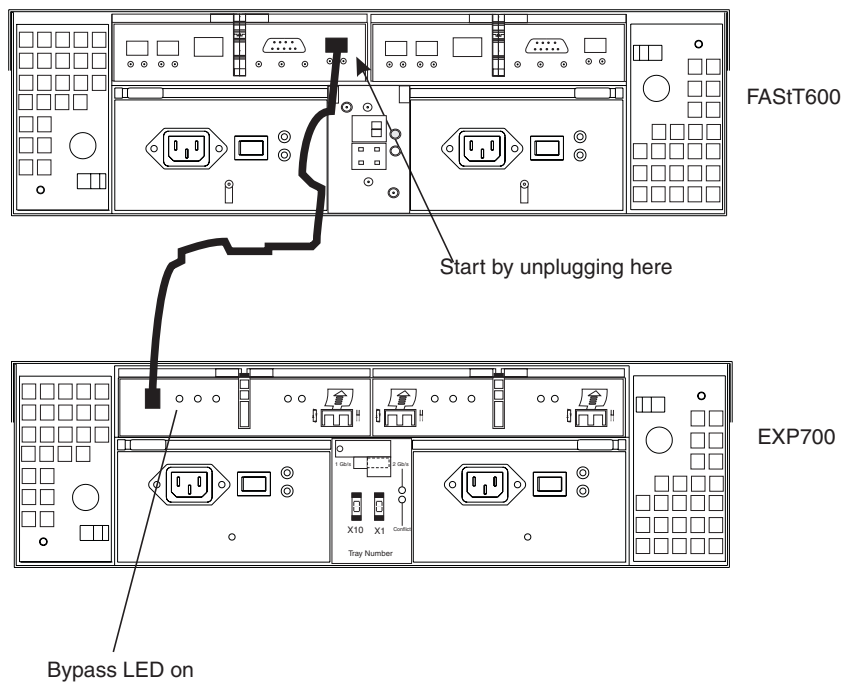

Figure 89. Copper cable and bypass light
1. Unplug one end of the FC copper cable in the loop element that has the bypass indicator light on. You can start at either cable end. For this example, start by unplugging the end that connects to the controller. See Figure 89.